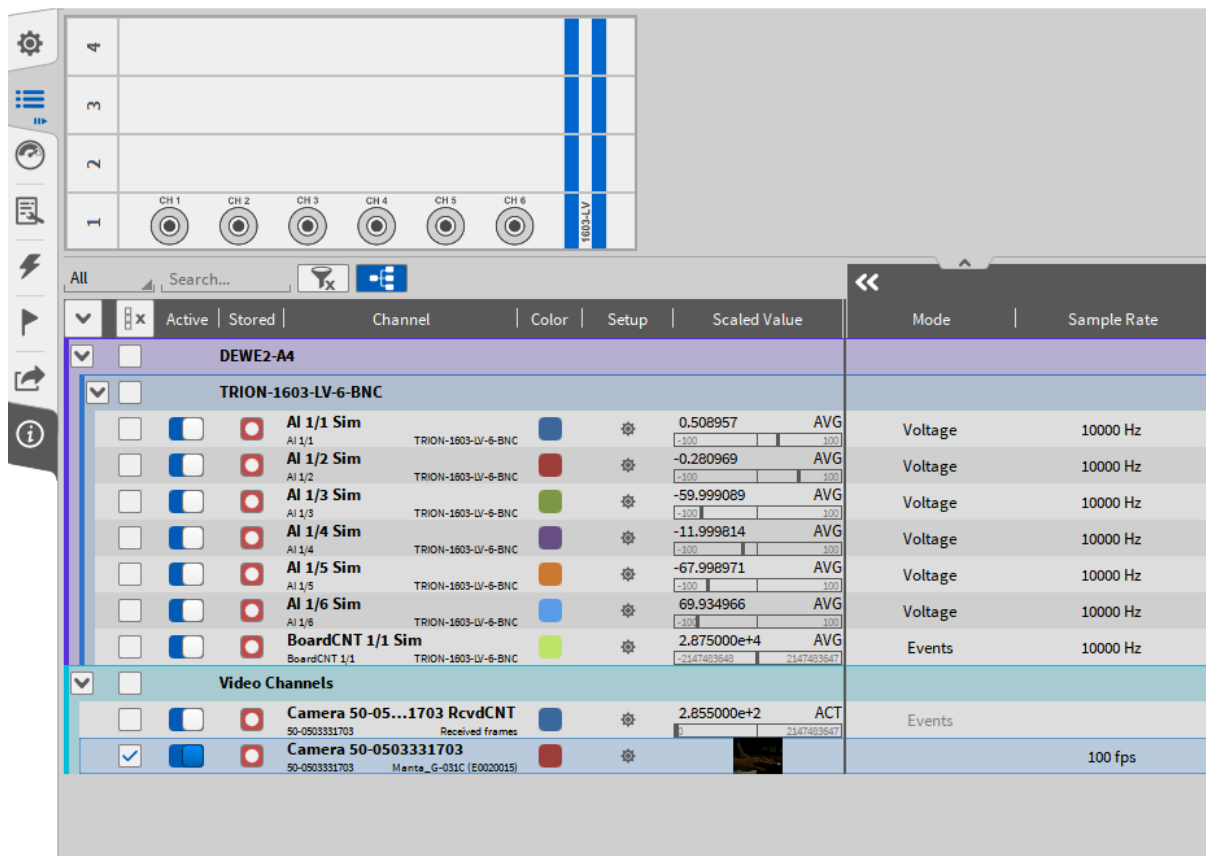

Fig. 8.84: Frame Counter Channel
**Note:** For each connected camera, there exists a counter channel that counts the number of received frames since acquisition start. The channel has the same name as the respective camera with RcvdCNT appended. To activate the counter, you need to activate the channel (The channel is not activated automatically). The channel can be found in the *Video Channels* section of the Channel List (see Fig. 8.84).